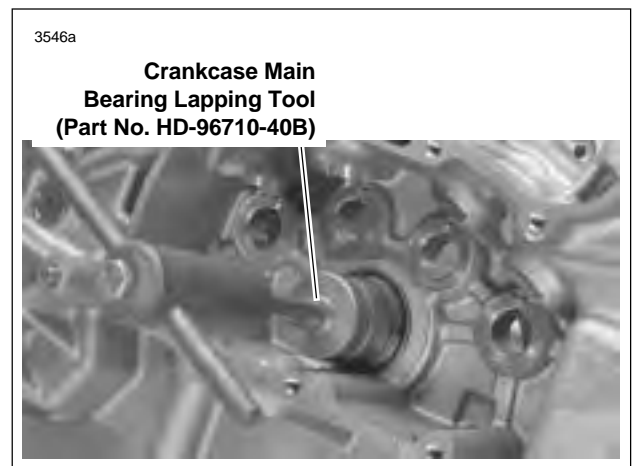

Figure 3-87. Lapping Pinion Shaft Main Bearing
2. See Figure 3-87. Obtain CRANKCASE MAIN BEARING LAPPING TOOL (Part No. HD-96710-40B). Assemble CRANKCASE MAIN BEARING LAP (Part No. HD-96718-87) to lapping handle. Assemble guide sleeve to sprocket shaft bearing bushing. Sleeves, for use with tapered bearing, are assembled to case with bearings and small spacer collar. Finger-tighten the sleeve parts.